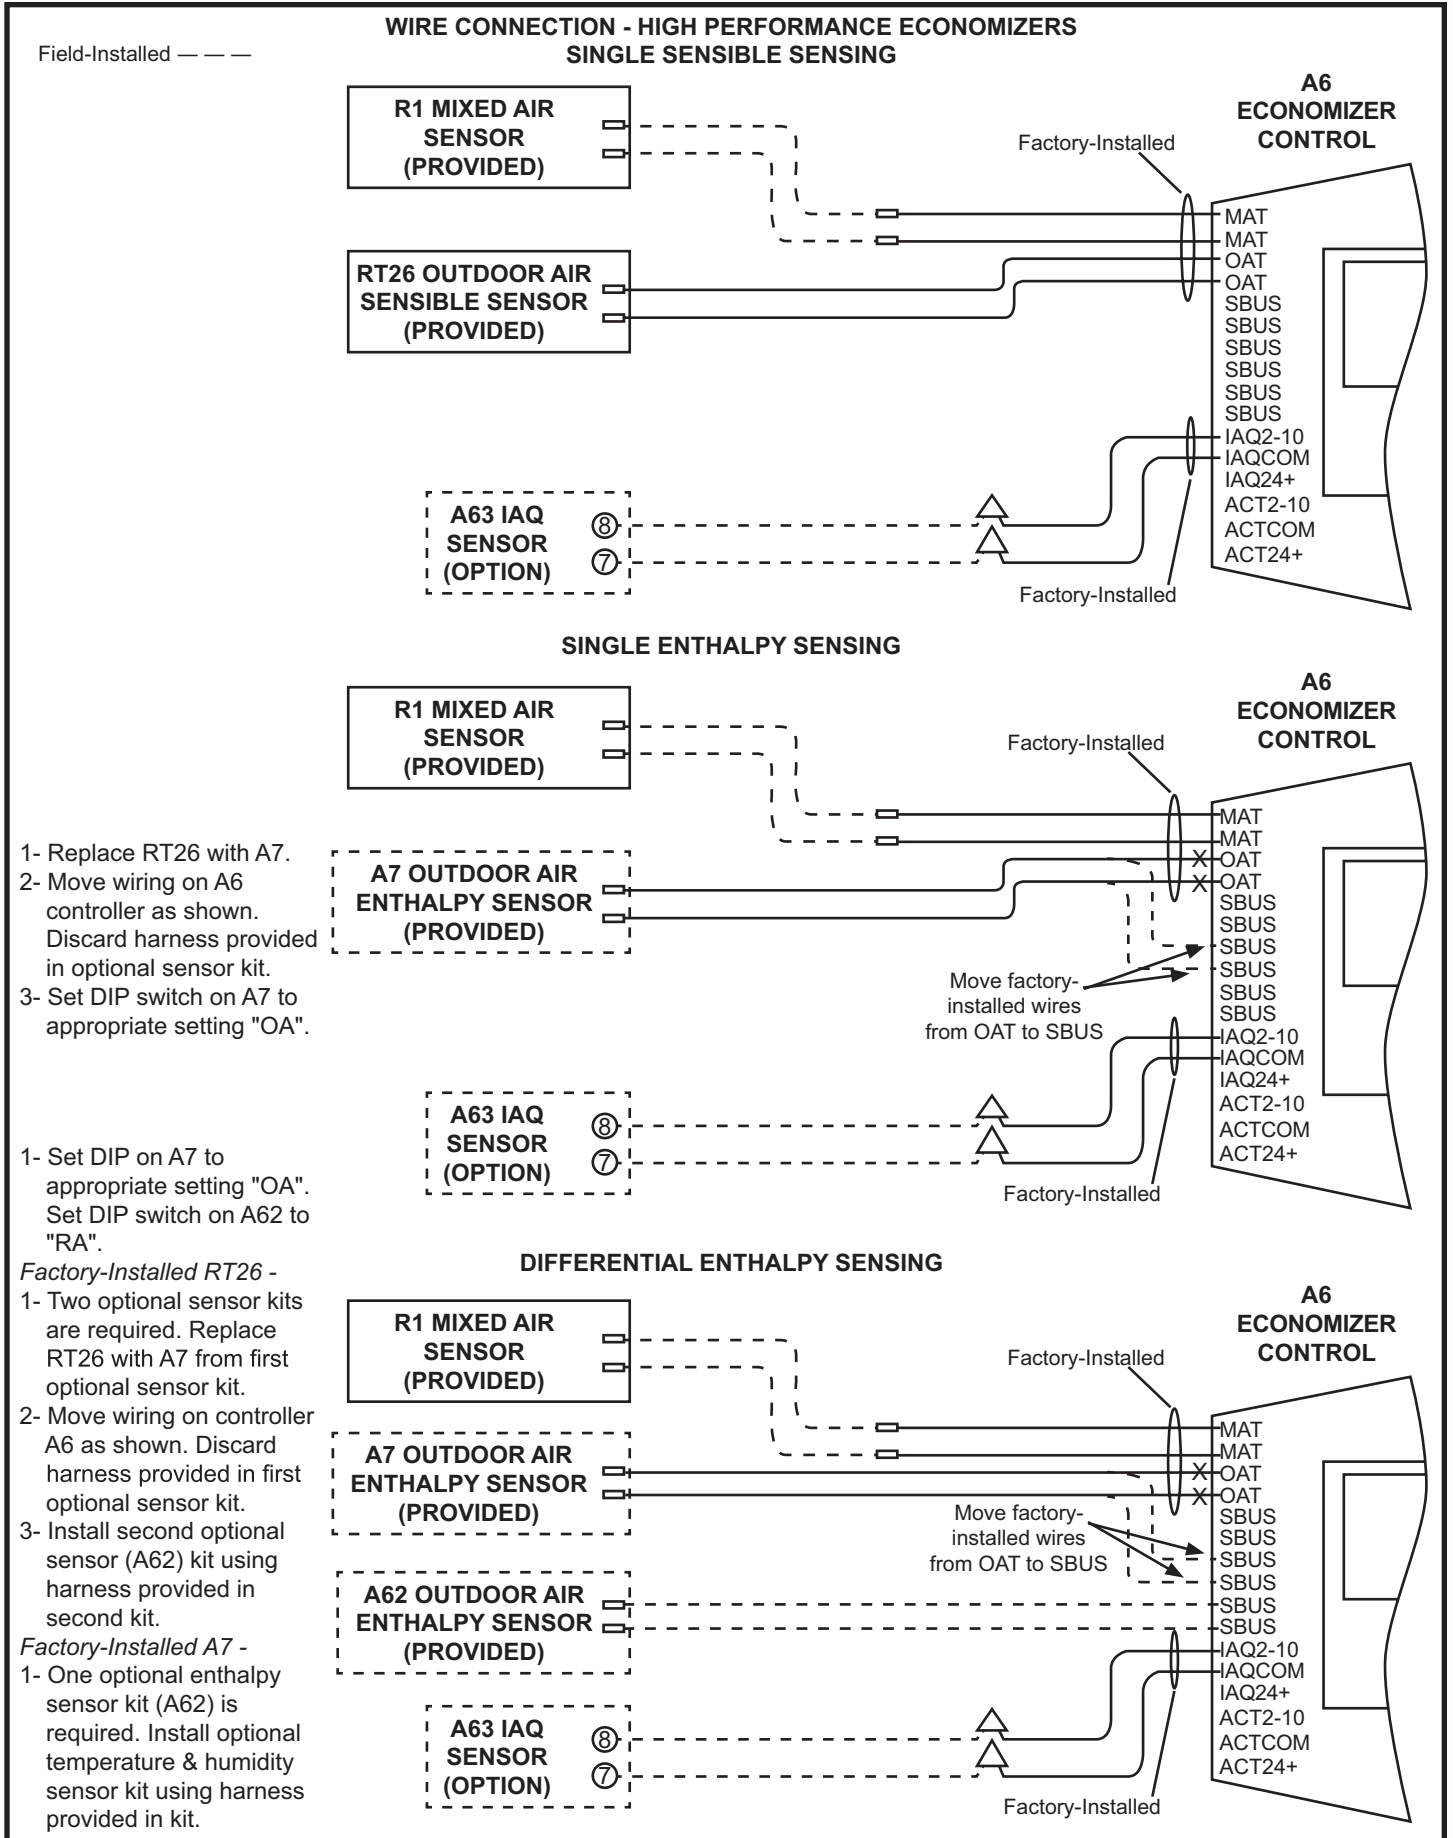

Figure 9
For proper operation, the IAQ sensor must provide a 2-10VDC, 100 ohm impedance signal. Connect sensors to the green IAQ leads provided on the economizer control module in the filter section as shown in Figure 9.
2. Connect any optional sensors as shown in figure 9.